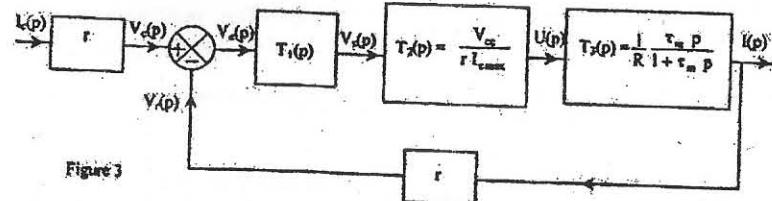
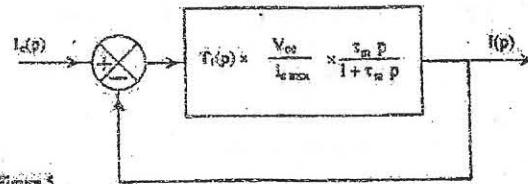
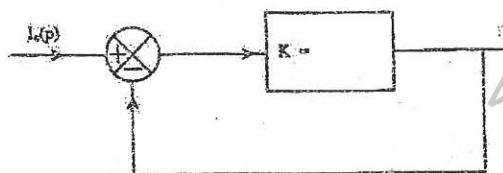

Figure 3
Figure 5
Figure 6
2.2.2. What value should be given the constant  $\tau_1 = R_1 C_1$  of the corrector if it is desired that the block diagram of Figure 5, equivalent to that of Figure 3, being reduced to that of Figure 6 where  $K$  is a constant we will calculate function of  $V_{cc}$ ,  $R$  and  $I_{\max}$ . Complete figure 6.
2.2.1. One gives  $w(p) = \frac{I(p)}{I_c(p)} = \frac{5}{6} = cte$  and is applied to the input of the loop shown in Figure 3, a set point step  $I_c(t)$  of 5.76A while the initial angular velocity  $\Omega(0)$  is zero. By using the basic relationship of the dynamics for solid in rotation about an axis compute  $\Omega(t)$